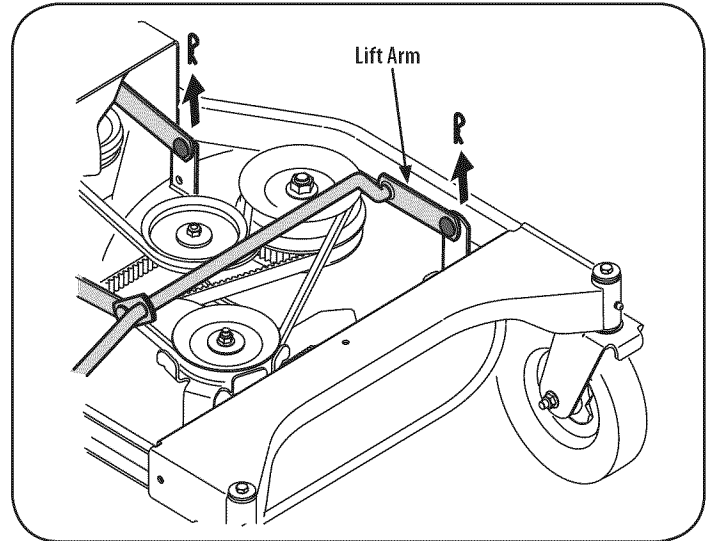

Figure 28
7. Looking at the cutting deck from the left side, locate and carefully remove the hairpin clips that secure the deck supports on the rear left side and front left side of the deck. See Figure 28.